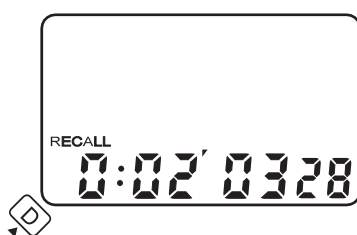

Fig. 11
- Press D again shows the stopped time, Fig. 11.